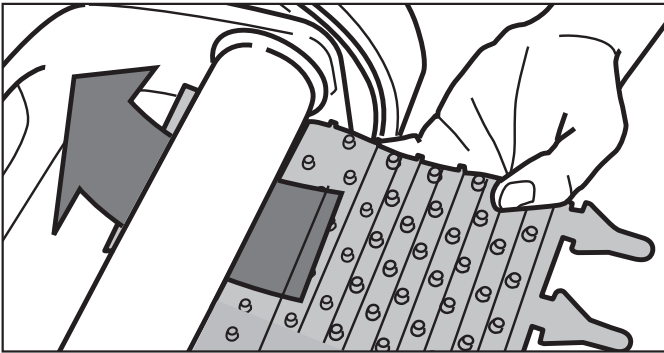

Figure 26. Position the New Brush on Roller
3. Position the new brush underneath the roller with the spikes facing downwards (see Figure 26).